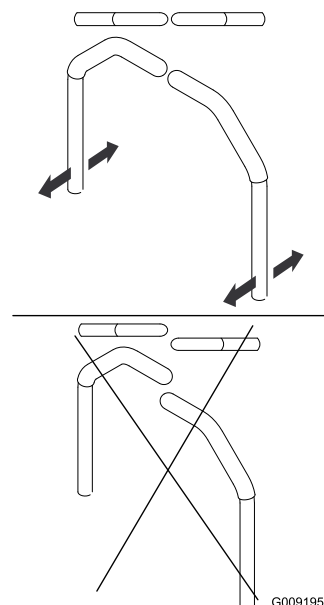

Figure 63
4. Align the levers in the front-to-rear position by bringing the levers together to the NEUTRAL position, and slide them until they are aligned, then tighten the bolts (Figure 63).